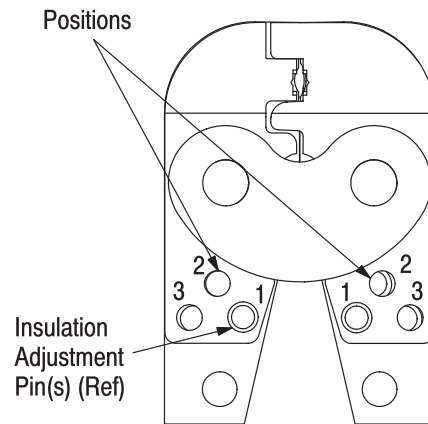

Figure 5
1. Insert insulation adjustment pins in Position 3. See Figure 5.
**NOTE** Always place both adjustment pins in the same position. See Figure 5.